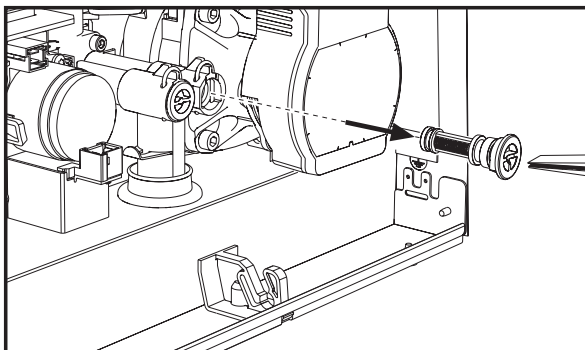
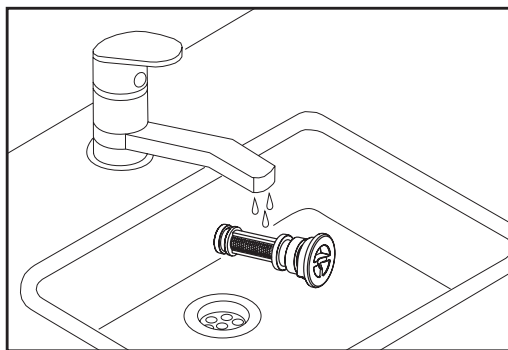

fig. 197 -
fig. 198 -
- The flowmeter components can thus be cleaned (see fig. 197 and fig. 198) or replaced.